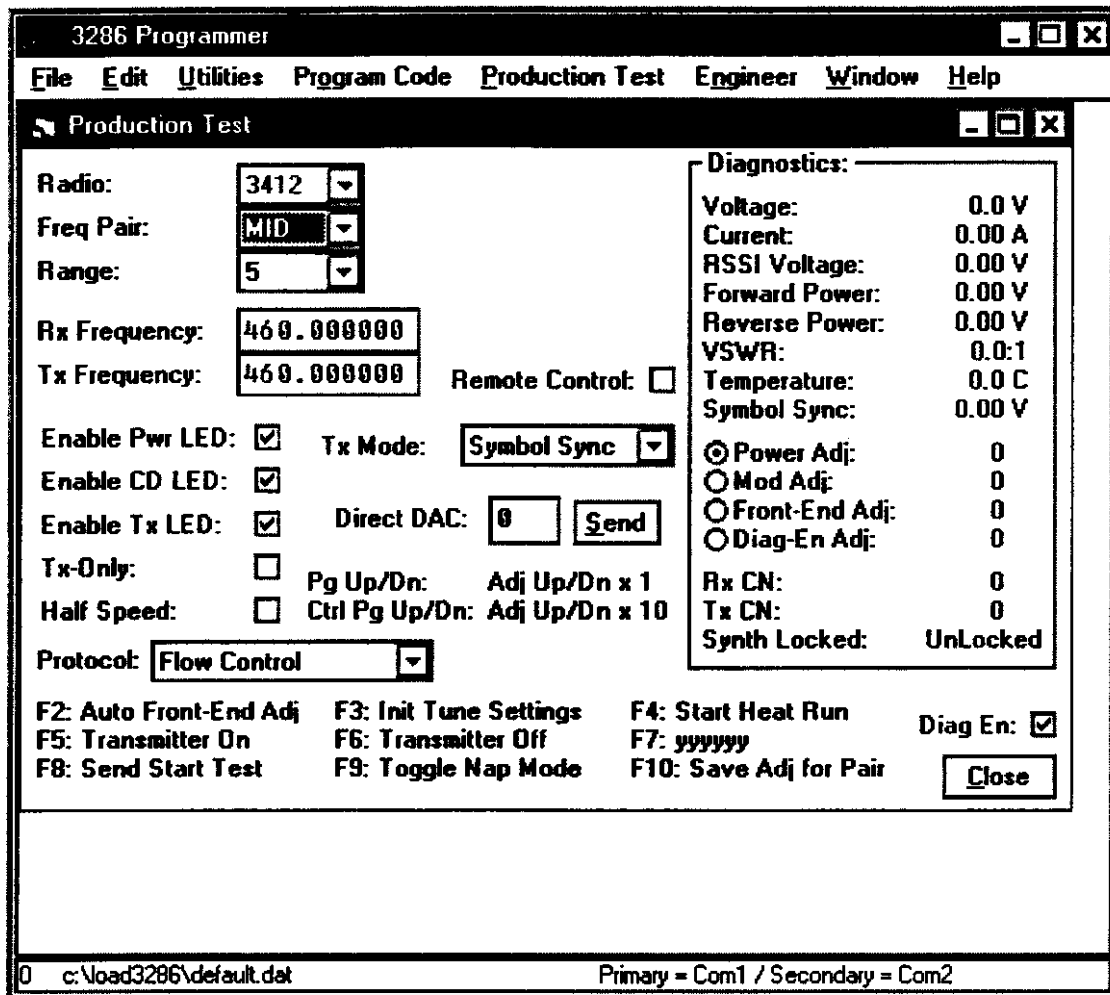
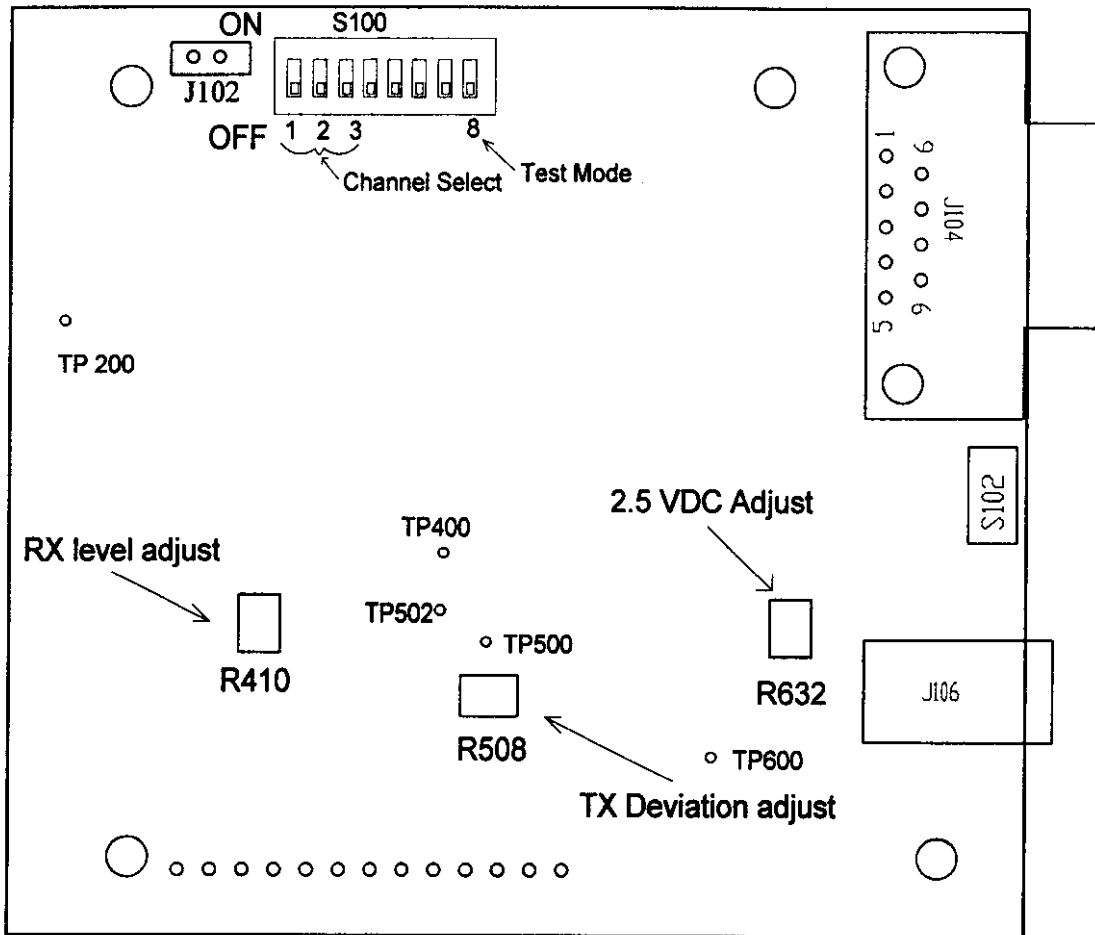

Figure 2-1 3286 Programming Software Screen
Figure 2-2 3286 Modem Board
From the Production Test Screen of the 3286 Programmer Software select Random Data for TX Mode (see Figure 2-1.) Hit the F5 key on the PC keyboard to key the transmitter. Adjust R508 to set the transmitter deviation for 1.5 kHz (see Figure 2.2.)
Input a -80 dBm signal on frequency into the RF transceiver modulated with a 1.2 kHz sine wave with 1.5 kHz of deviation. Monitor the recovered audio at TP 400 (see Fig. 2-2.) Adjust 410 for 1Vp-p (354 mVrms.)
Adjust R 632 for 2.5 VDC at TP 600 (see Fig. 2-2.)
- Write or Read Parameters - Write sends the open data file to the 3286 modem. Read retrieves the current data file from the modem. Before a Read or Write Parameters is executed, press S102 (see Section 2, Figure 2-2) to put the modem into setup mode. After the parameters are sent or received, the power to the modem must be cycled to place the modem back in normal operation so the data transfer can be completed.
- Program Code - To install a new version of firmware, the modem must be taken out of it's case. Short the two pins of J102 and cycle power (see Section 2, Figure 2-2).
Parameters setup in this window are for temporary purposes. When the Production Test window is closed these parameters are lost. For permanent data settings, use the Edit Radio Specs. under the Edit pull-down menu. Before any functions under the Production Test pull-down menu can be executed, press S102 (see Section 2, Figure 2-2) to put the modem in setup mode. When production testing is completed, power to the modem must be cycled to place the modem in normal operation mode to complete data transfer.